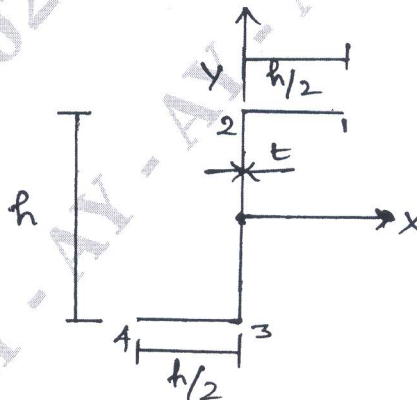

Fig.Q2(b)
b. Determine the direct stress distribution in the thin-walled Z-section shown in Fig.Q2(b) produced by a positive bending moment M_x .